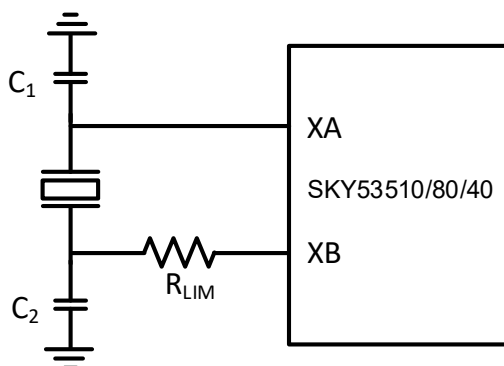

Figure 16. Crystal Interface
I_{RMS} can be measured using a current probe (for example, Tektronix CT-6 or equivalent) placed on the leg of the crystal connected to XB with the oscillation circuit active. As shown in Figure 16, an external resistor, R_{lim} , can be used to limit the crystal drive level, if necessary. If the power dissipated in the selected crystal is higher than the drive level specified for the crystal with R_{lim} shorted, then a larger resistor value is mandatory to avoid overdriving the crystal. However, if the power dissipated in the crystal is less than the drive level with R_{lim} shorted, then a zero value for R_{lim} can be used. As a starting point, a suggested value for R_{lim} is 316 Ω .
2. Max Crystal ESR for 24 MHz = 50 Ω, 54 MHz = 25 Ω; C_L = 8 pF, C₀ ≤ 2 pF; from Figure 16 on page 17: C_{1(XA)} = 6.8 pF; C_{2(XB)} = 8 pF. These values are based on the PCB layout used for characterization; equations for calculating these values for other layouts are provided in AN1405.**Table 12. DC Common Characteristics**(V_{DD}/V_{DDOx} = 1.8 V ± 5%, 2.5 V ± 5%, or 3.3 V ± 5%, T_A = -40 to 95 °C)